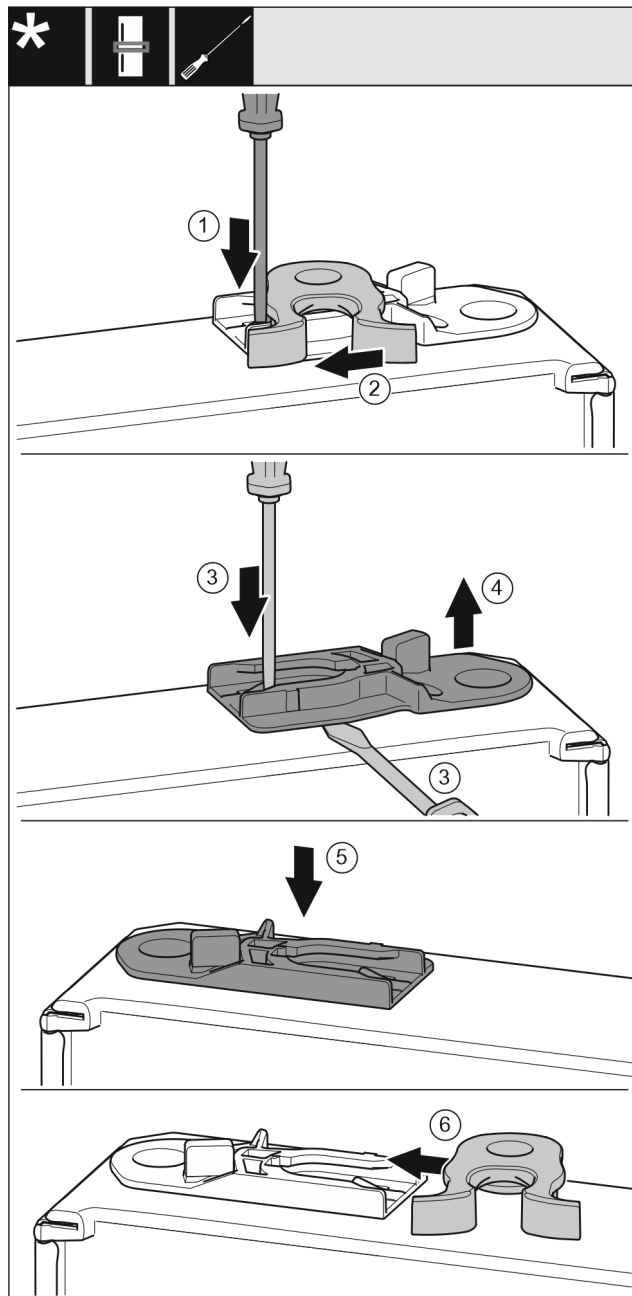

Fig. 28
- Push the lug downwards with a slotted screwdriver. Fig. 28 (1)
- Pull the door latch out of the guide. Fig. 28 (2)
- Pull out the guide bush: Press the lug with a slotted screwdriver and, at the same time, insert the slotted screwdriver under the guide bush. Fig. 28 (3, 4)
- Slide the guide bush included in the scope of supply to the other side of the housing. Fig. 28 (5)
- Push the door latch into the guide. Fig. 28 (6)